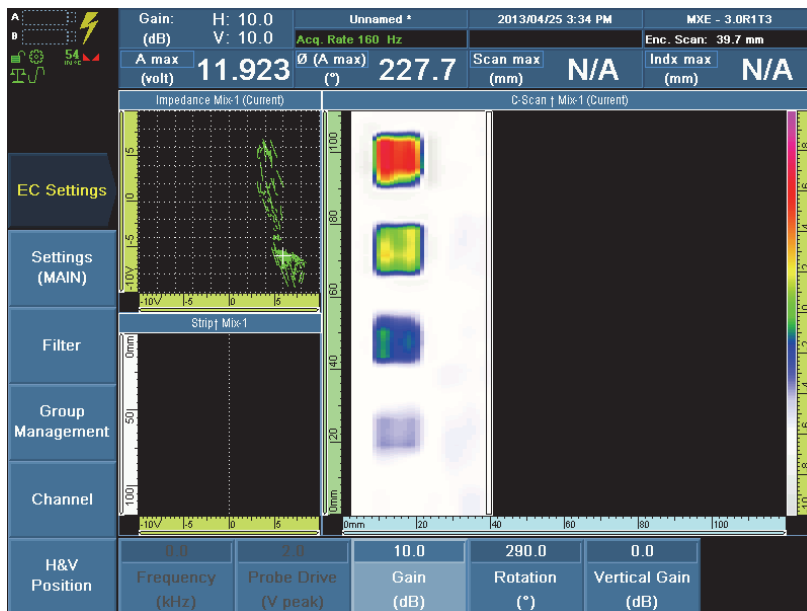

Figure 9-33 Fine-tuning the defect's signal to expand and rotate
1. Select **EC Settings > Settings (MAIN) > Gain (dB)**, set the value to expand the signal, ensuring that it spans approximately 6 grid divisions in the impedance plane view, and then press the Accept key to confirm. Typically, the **Gain (dB)** parameter value can be increased by 10 dB to 20 dB (see Figure 9-33 on page 166).